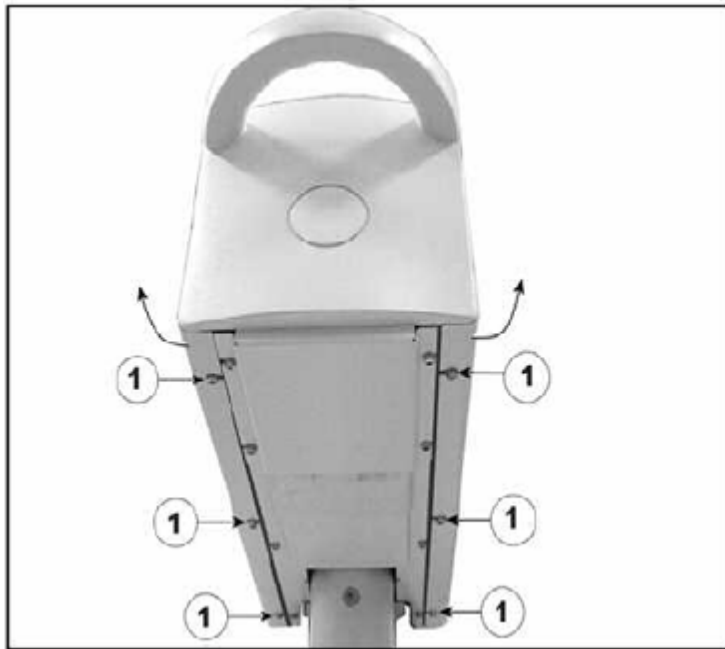
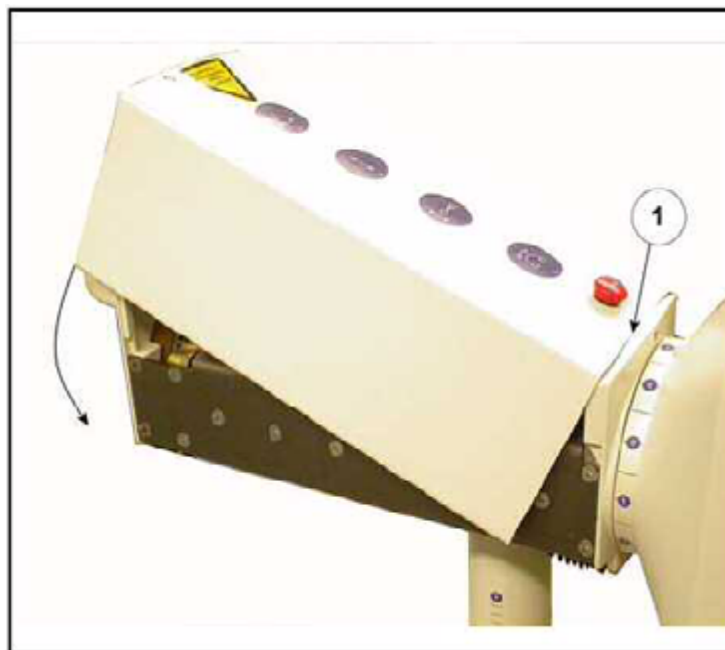

Fig. 4: Cover 1
Fig. 5: Cover 2
1. Loosen the 6 mounting screws (1/Fig. 4 / p. 21)
2. Expand the cover at the rear end in the direction of the arrow (see (Fig. 4 / p. 21)) and remove it in a downward direction.
- ⇒ Expand the cover at the rear end(see (Fig. 4 / p. 21)) far enough that, as shown in (Fig. 5 / p. 21), it lies obliquely over the horizontal carriage in the edge, (1/Fig. 5 / p. 21).
2. Expand the cover at the rear end (see (Fig. 4 / p. 21)) far enough that, as shown in (Fig. 5 / p. 21), it lies obliquely over the horizontal carriage in the edge, (1/Fig. 5 / p. 21).
3. Press on the top surface of the cover, without grasping the sheet metal edges, until this slides over the lower edge of the horizontal slide. Make sure that the cover does not slide out from the edge ((1/Fig. 5 / p. 21)).
5. Fasten the cover with the 6 Allen screws ((1/Fig. 4 / p. 21)).